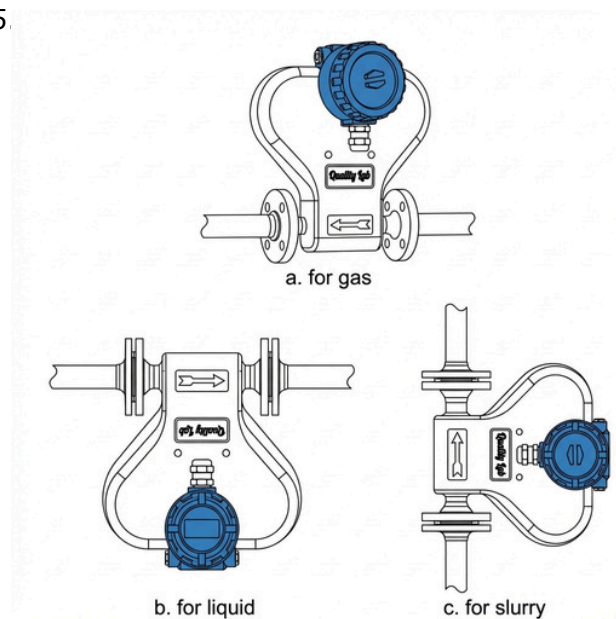

Figure 5
- Follow the recommended mounting orientations for gas, liquid and slurry applications shown in Figure 5.